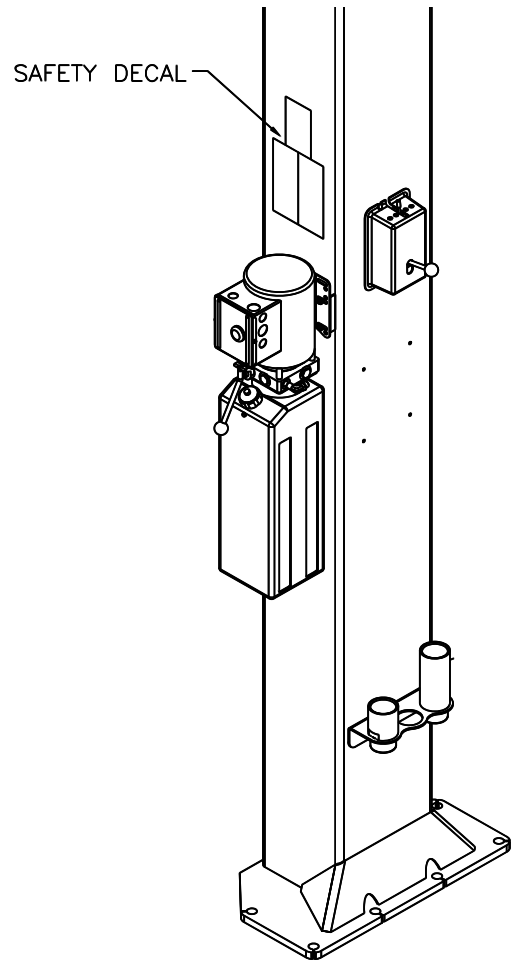

Fig. 23-Safety Decal Placement
- 63) Clean surface of the rear column above the power unit and install Safety Decals, **Page 3** and **Fig. 23**.